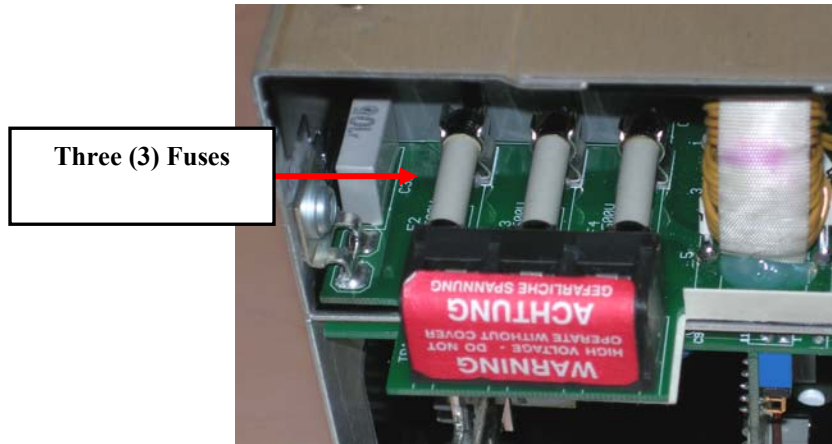

Figure 42 Fuse Location
8. Locate the fuses, which are now visible on the power supply PC board. (Refer to Figure 42.)